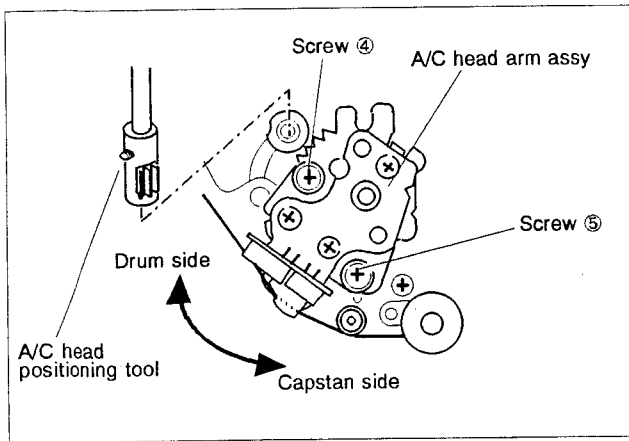

Fig. 2-7-4 A/C head phase adjustment-1
- 4) If adjustment is required, slightly loosen screws ④ and ⑤. Set A/C head positioning tool on the A/C head adjusting boss as shown in Fig. 2-7-4.